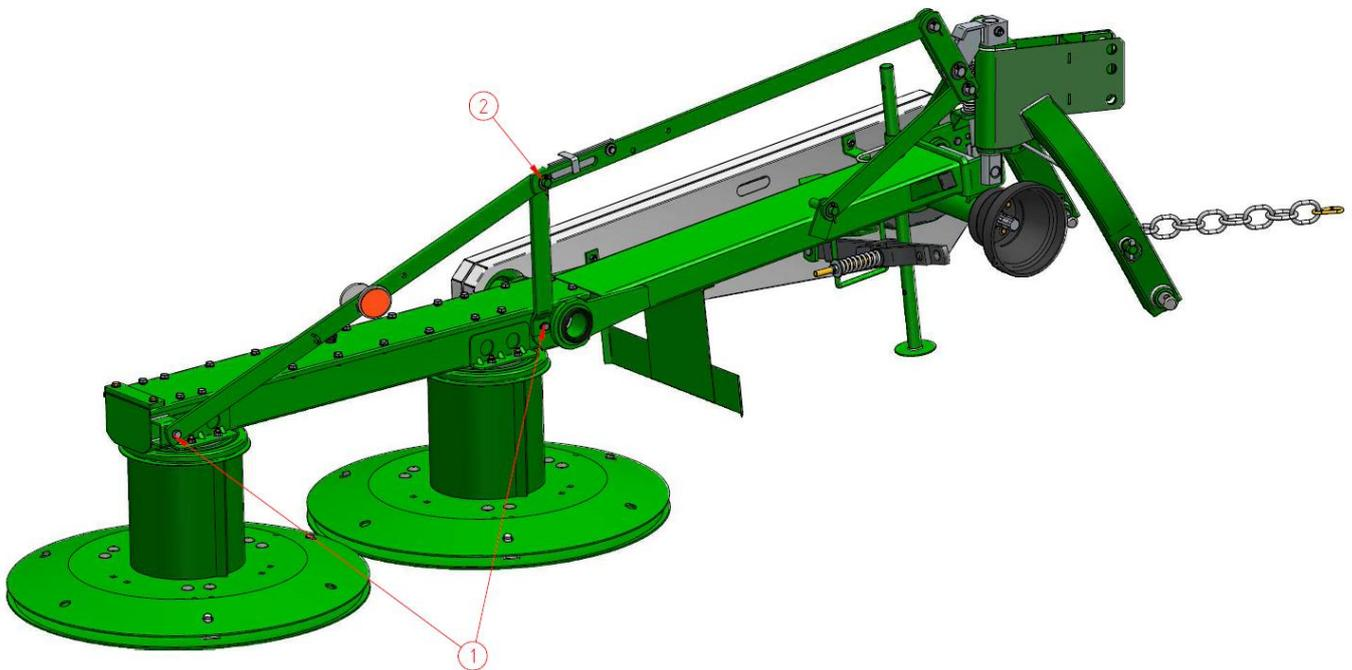

Figure 40 Cover assembly – STEP IX
- Disconnect the milled connector from the scythe-connector (in hydr. model: with hydraulic cylinder) (Fig. 40 item 2),
- Unscrew the mounting bolts fixing the scythe-connector to the main frame (Fig. 40, item 1) and the scythe-connector remove tie rod-knife from the machine.